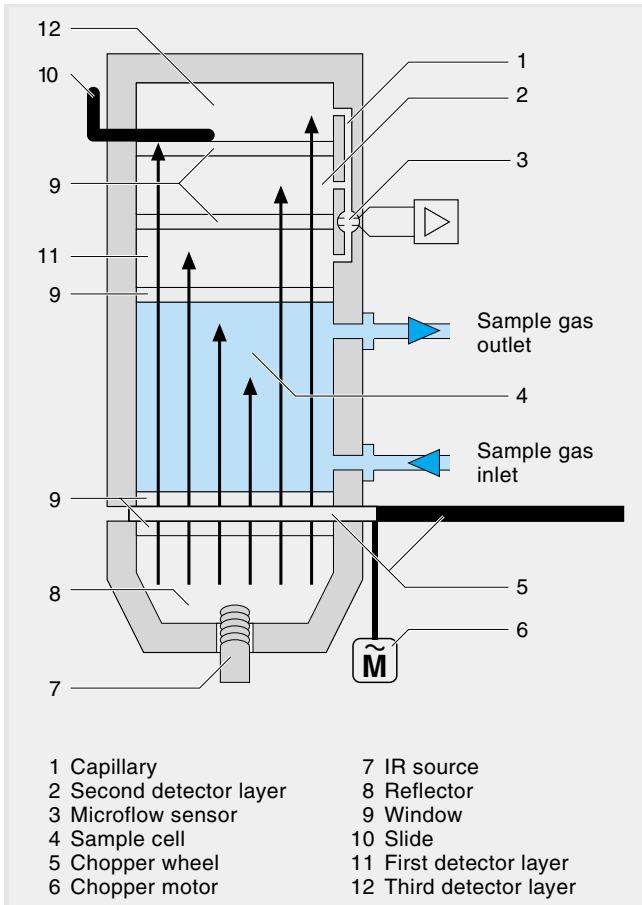

Fig. 3.3 ULTRAMAT 23, mode of operation of infrared channel (example with three-layer detector)
- 10 Sample cell (see Fig. 3.3)